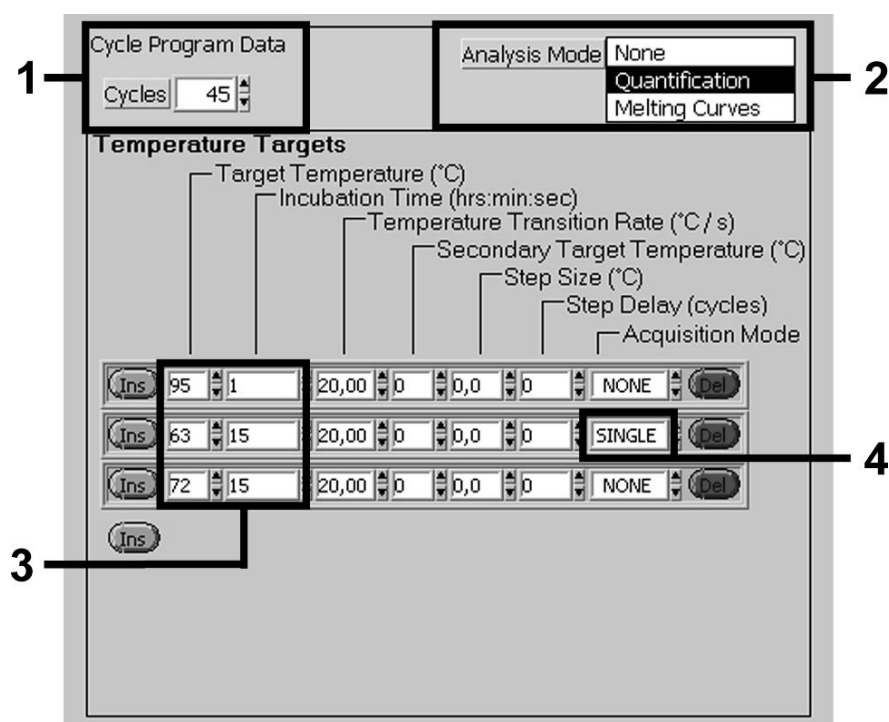

Fig. 4: Amplification of the DNA.
- B. Amplification of the DNA Fig. 4